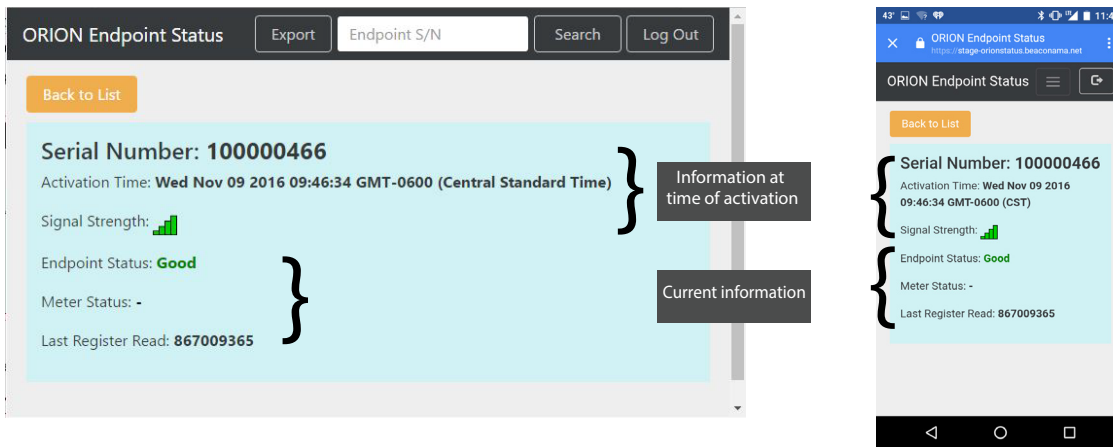

Figure 67: Status detail screen - computer and mobile
- Select an endpoint in the list to see the endpoint raw read. A window opens, like the examples shown in Figure 67.